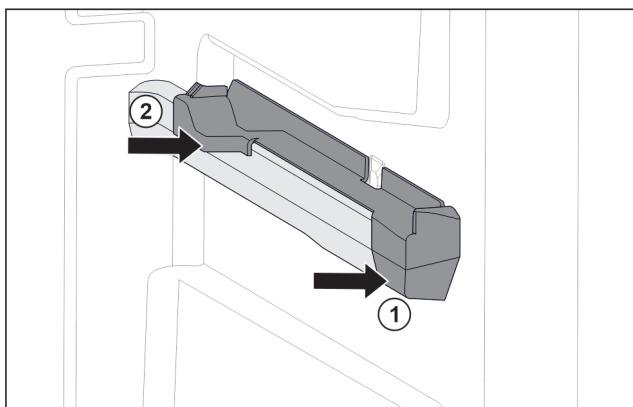

Fig. 79 Attachment on the right moulded rib
- ▶ Position attachment on moulded rib at the front. *Fig. 79 (1)*
- ▶ Press on attachment at the back. *Fig. 79 (2)*